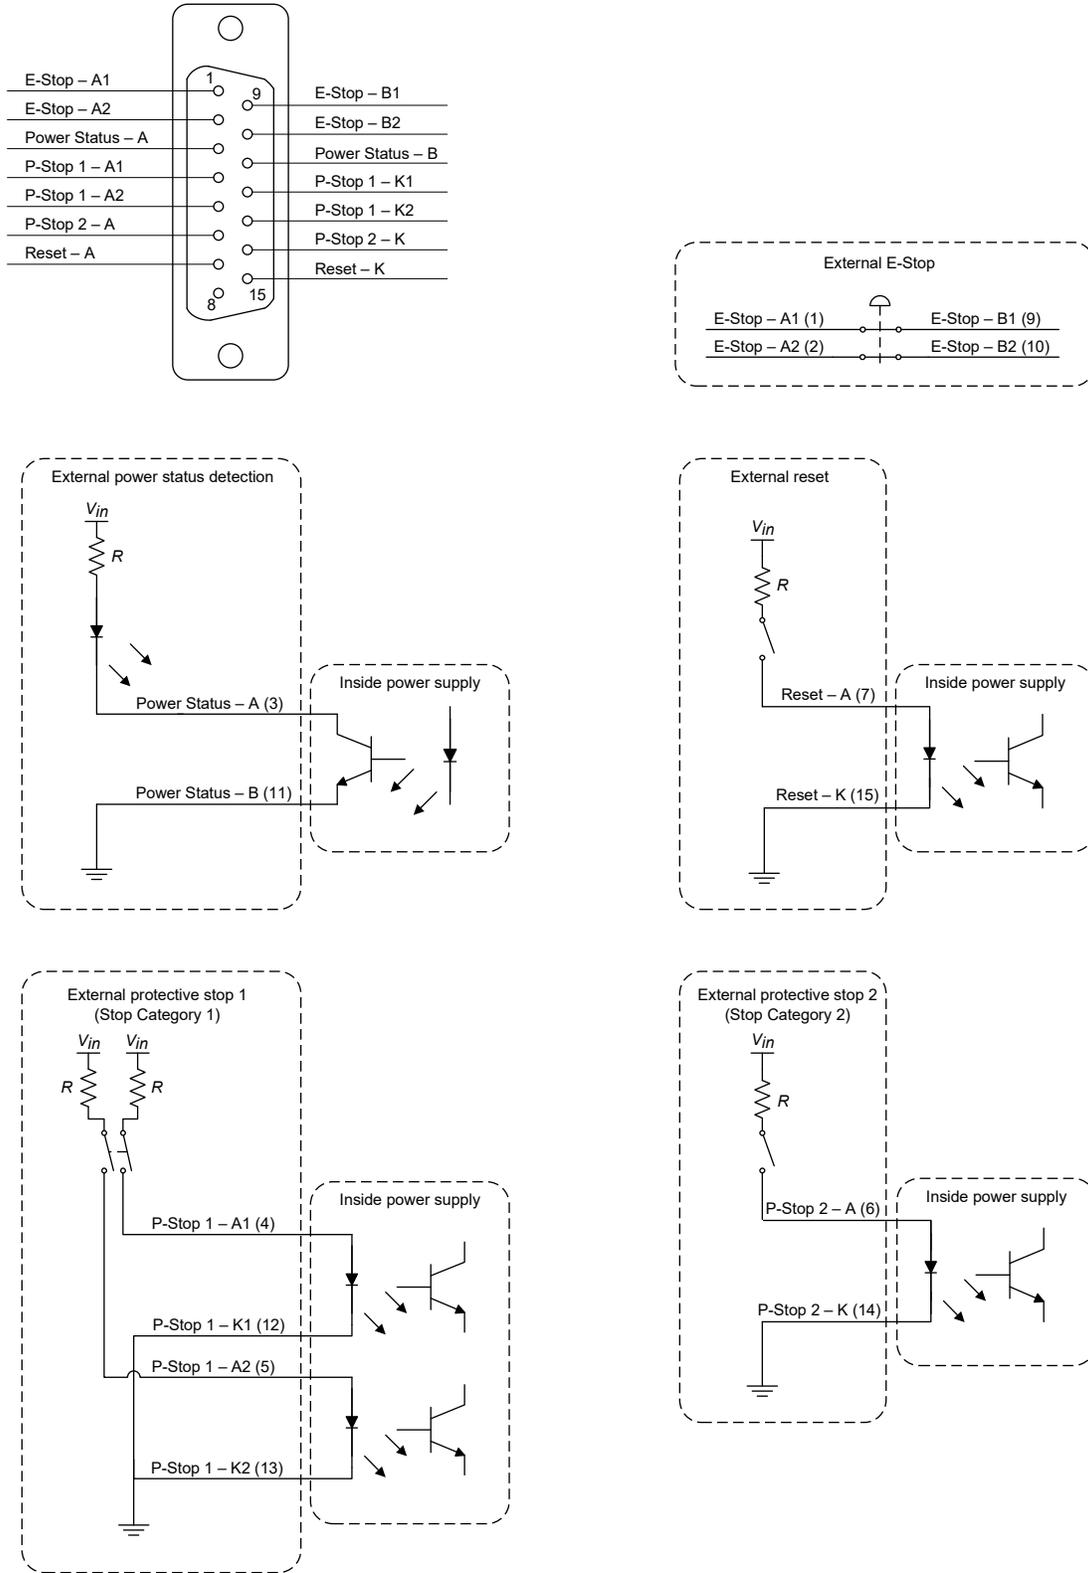
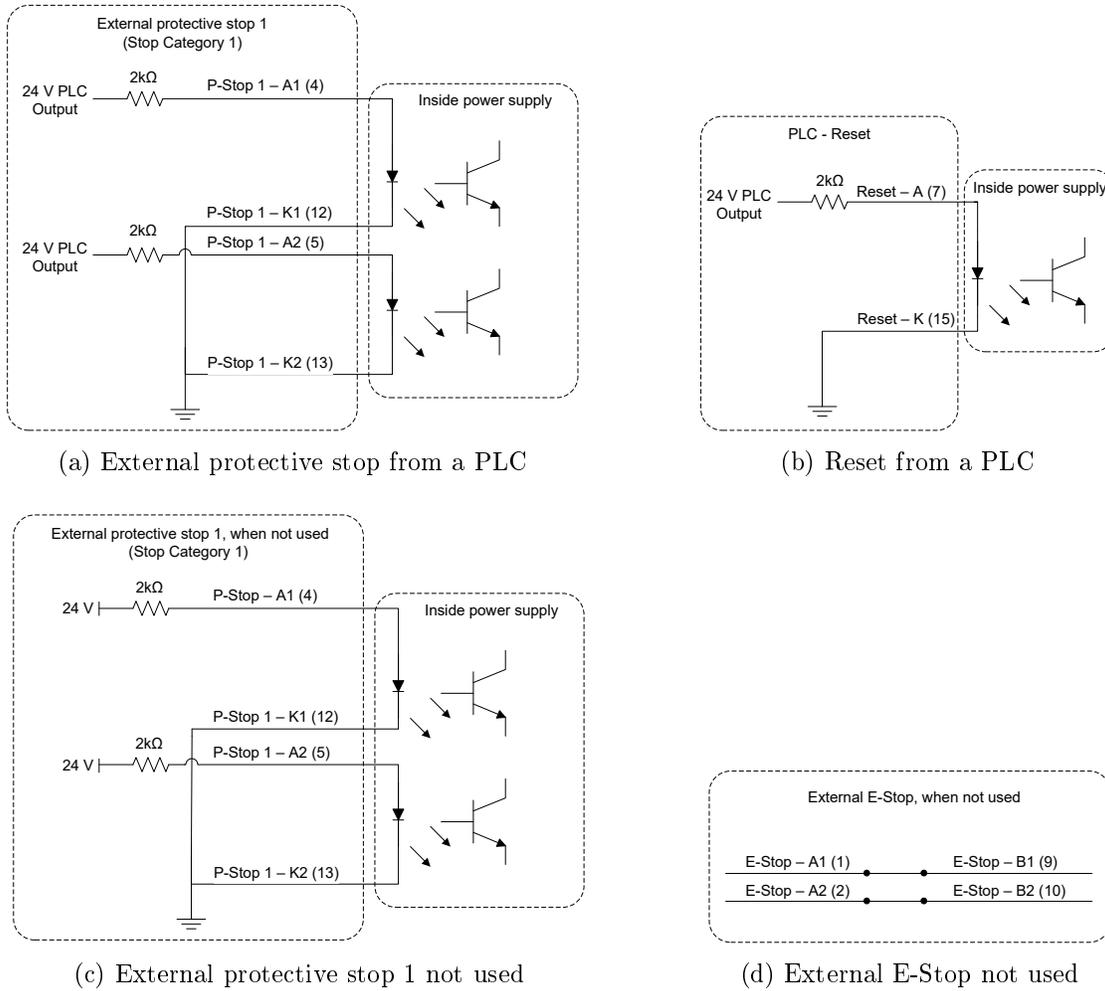

Figure 18: Electric diagram of suggested generic connections to the D-SUB connector
Figure 19: Additional examples of connections to D-SUB connector
Figure 18 shows the pinout of the D-SUB 15-position connector on the power supply and gives a generic example for all connections. As already mentioned, you can connect:
Note that the external circuits shown in Fig. 18 are only suggestions. You may, for example, connect several external E-Stops in series, or instead of sending a signal to a PLC when the power to the robot is cut, you may connect a LED between the resistor and the Power Status – A line. Figure 19 shows several other examples. Specifically, Fig. 19a shows how to control the Stop Category 1 protective stop from a PLC by supplying a 24 V DC signal. Figure 19b shows how to reset the power supply from a PLC. Figure 19c shows that you can supply a 12 mA continuous forward current to pins 4 and 5 if you do not want to use the Stop Category 1 protective stop. Lastly, Fig. 19d shows that you need to short-circuit pins 1 and 9, and pins 2 and 10, if you do not intend to use an external E-Stop.
- The input voltage (V_{in} , Fig. 18) must be between 5 V DC and 48 V DC.